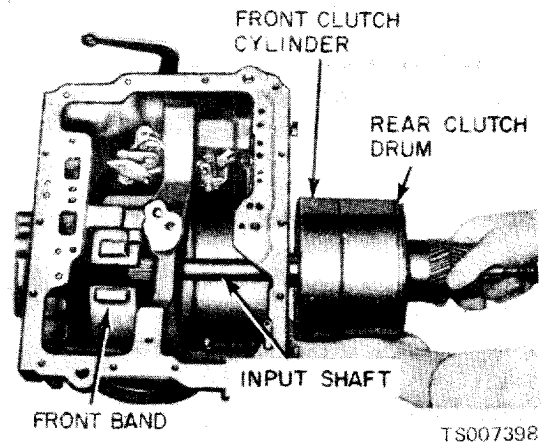
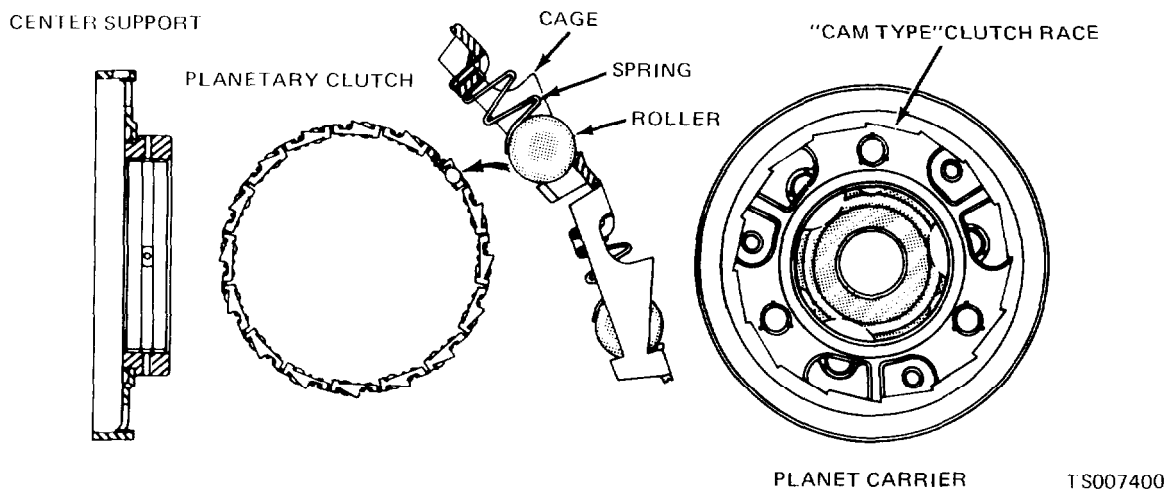

Figure 7-10. Input Shaft and Clutch.
Figure 7-12. Planetary Clutch, Carrier and Center Support.
(5) Slide the speedometer drive gear off the shaft.
(6) If the drive gear ball does not fall out as the speedometer gear is removed, remove the ball from the seat in the output shaft.
(7) Remove the distributor sleeve. Remove the four seal rings from the output shaft with the fingers to prevent breaking the rings.
(8) Remove the governor snap ring from the output shaft. Slide the governor assembly off the output shaft. Then remove the governor drive ball. Remove the rear pump, extension housing and pump gaskets.
(9) Remove the rear pump drive key from the output shaft. Then remove the bronze thrust washer from the output shaft.
(10) Remove the selective thrust washer from the rear of the pinion carrier.
(11) Remove the two seal rings from the primary sun gear shaft. Remove the pinion carrier.
(12) Remove the primary sun gear rear thrust bearing and race from the pinion carrier.
(13) Note the rear band position for reference in assembly. The end of the band next to the adjusting screw has a depression (dimple) in the center of the boss. Squeeze the ends of the rear band together, tilt the band to the rear, and remove the rear band from the case.
(14) Remove the two center support outer bolts (one each side) from the transmission case.
(15) Exert enough pressure on the end of the input shaft to hold the clutch units together. Then remove the center support and the front and rear clutch assemblies as a unit (fig. 7-10).
(1) Install the front band in the transmission case so that the anchor end is aligned with the anchor in the case.
(2) Make sure the thrust washer is in place on the input shaft. Lift the clutch assemblies out of the holding block. Do not allow the clutches to separate.
(3) Install the clutch subassemblies in the transmission case while positioning the servo band on the drum. Hold the units together while installing them (fig. 7-10).
(4) Install the center support and the rear band in the case.
(5) Install the primary sun gear rear thrust bearing race, needle bearing, and front thrust bearing race in the planet carrier using petroleum jelly to retain them in place.
(6) Lubricate the bearing surface on the center support, the rollers of the planetary clutch, and the cam race in the carrier with petroleum jelly (fig. 7-12).